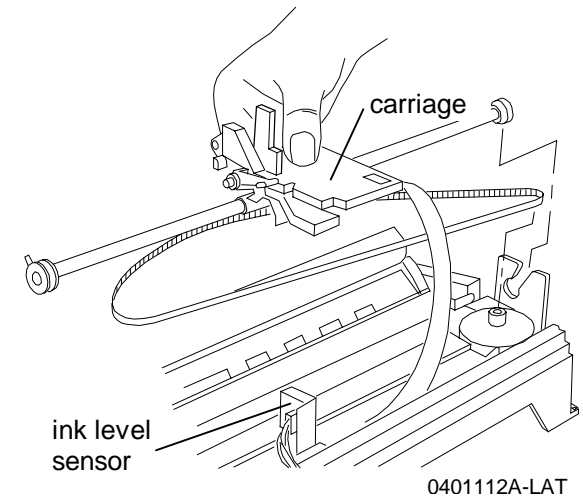

Figure 2.
6. Remove the carriage from printer side frames (Figure 2).